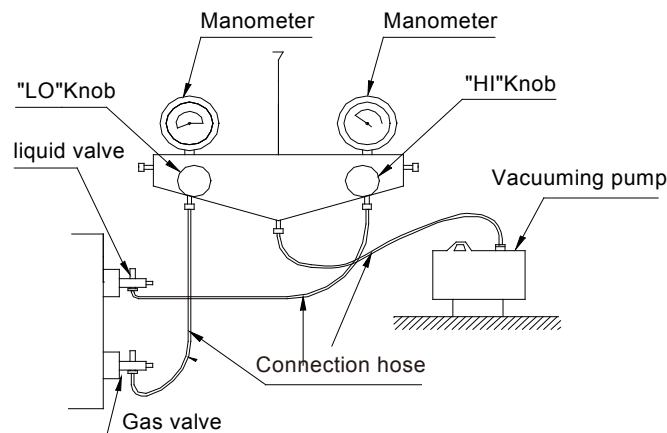

Fig 9
(1) The refrigerant has been charged into the outdoor unit before shipment, while additional refrigerant still need be charged into the refrigerant pipe during the field installation.
(2) Check if the liquid valve and the gas valve of the outdoor unit are closed fully.
(3) As shown in the following figure (Fig.9), expel the gas inside the indoor unit and refrigerant pipe out by the vacuum pump.